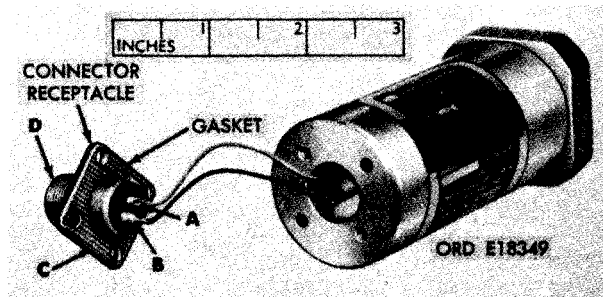

FIGURE 422. REMOVING OR INSTALLING CONNECTOR RECEPTACLE.
washers securing connector receptacle to motor cover. (C) Partially pull off connector receptacle as shown in figure 422.
- (2) Figure 422. (A) Unsolder red wire from terminal marked "A" of connector receptacle. (B) Unsolder black wire from terminal marked "B" of connector receptacle. (C) Remove and discard connector receptacle gasket. (D) Remove connector receptacle.